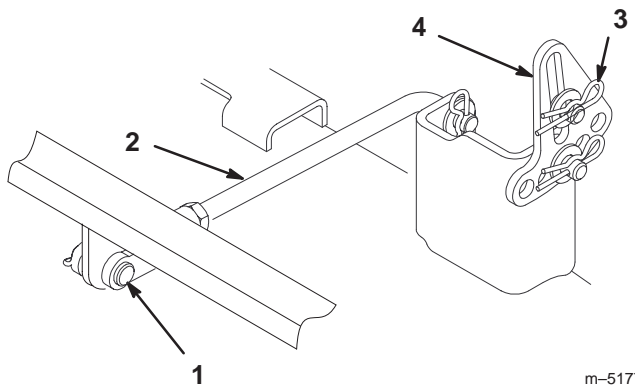

Figure 46
4. Remove the hairpin cotter and clevis pin from the rear trunnion rod (Fig. 46) on each side of the mower.
5. Remove the hairpin cotter and washer at the mower leveling brackets (Fig. 46) on each side of the mower. Note which hole the leveling bracket is mounted in for future installation. Slide the brackets off of the mounting pin.
4. Attach the rear trunnion rod to the tractor with the clevis pin and hairpin cotter (Fig. 46) on each side of the mower.
5. Slide the leveling brackets onto the mounting pins and secure them with the washers and hairpin cotters (Fig. 46).